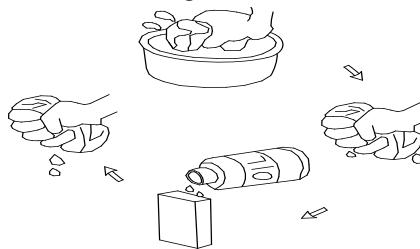

Fig. 5.1
4. Check the filter sponge to make sure that it is clean and in good condition. If the sponge is dirty, clean it as described in Fig. 5.1.